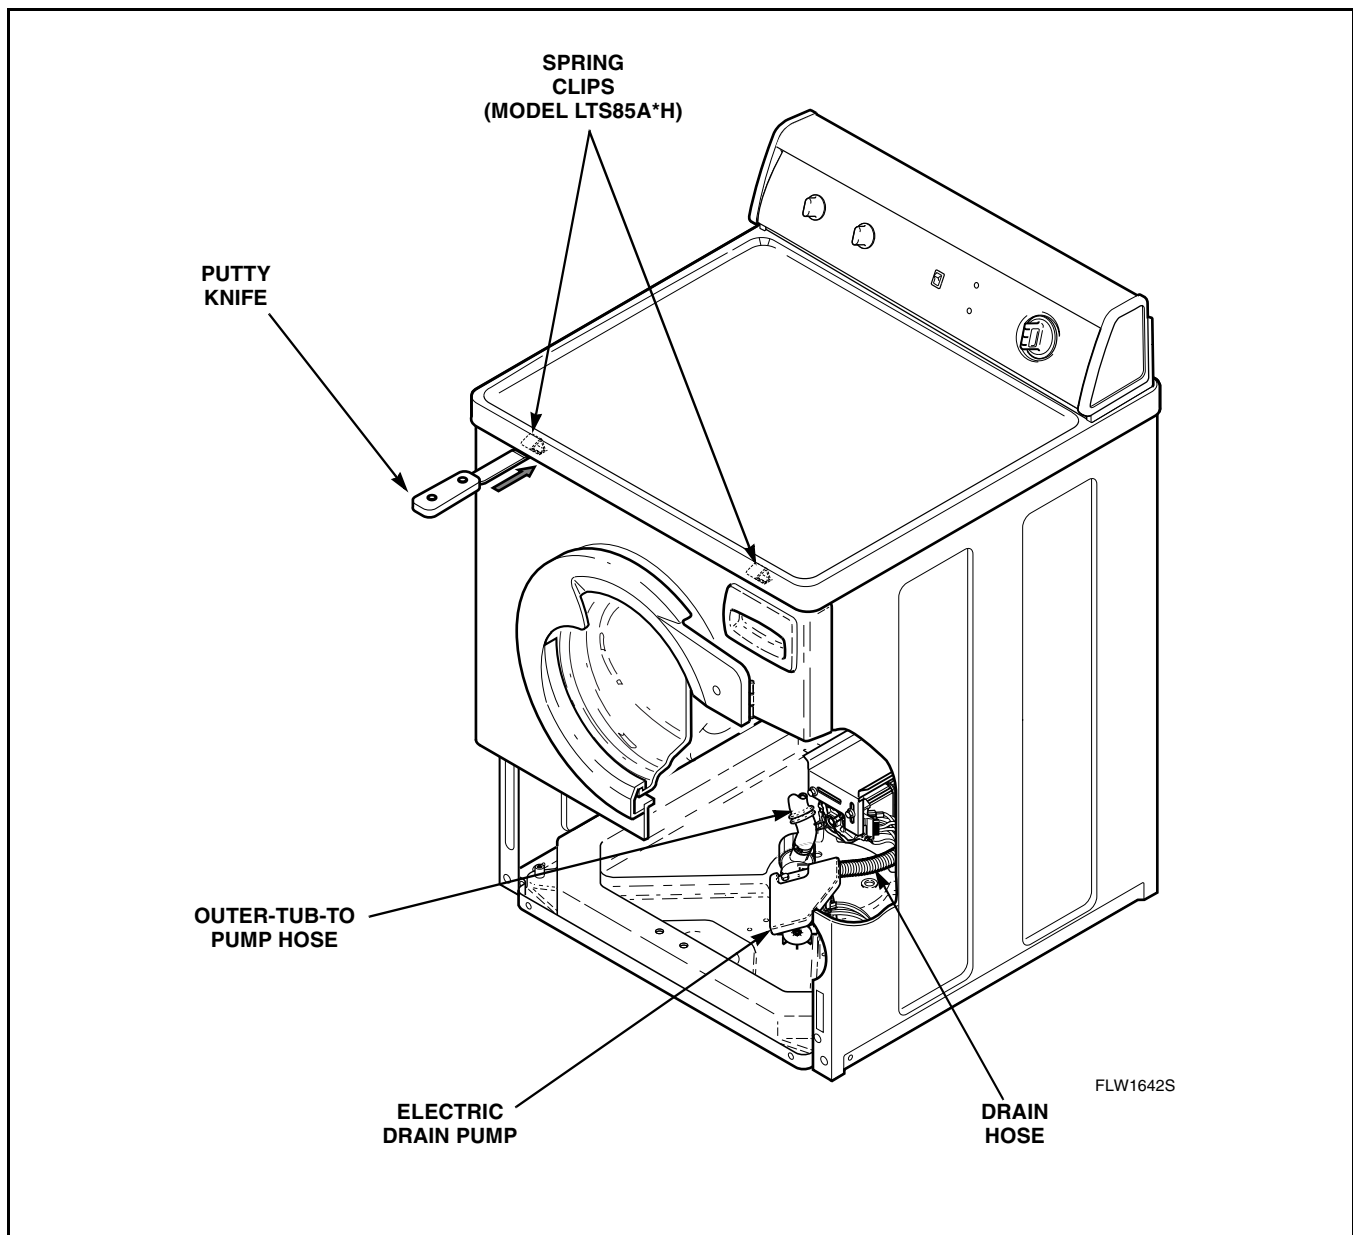
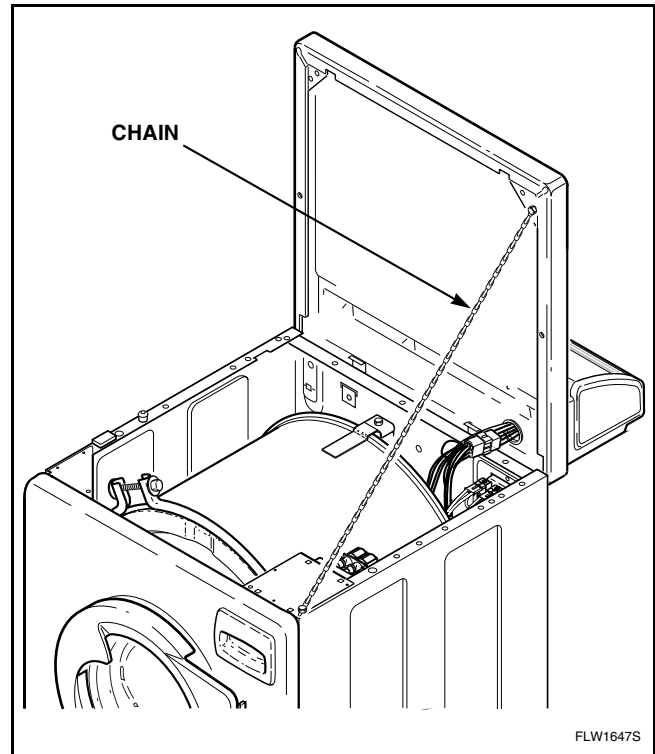

Figure 10
Figure 11
- Loosen hose clamps and remove three hoses connected to electric drain pump (outer-tub-to-pump hose, vent hose and drain hose). Refer to *Figure 10*.
**NOTE:** Front edge of cabinet top is held in place by two spring clips located on top flange of front panel. Refer to *Figure 10*.
- (1) Insert putty knife between cabinet top and top edge of front panel (approximately three inches in from side). Refer to *Figure 10*.
- (2) Push in on putty knife and at the same time lift front edge of cabinet top. Repeat for opposite side.
- (3) If area or space permits, lift cabinet top to a vertical position (top will rest on hinges).
**NOTE:** To avoid damage to hinges, be sure to support top with a chain (not included) or equivalent. Refer to *Figure 11*.
**NOTE: Front edge of cabinet top is held in place by two spring clips located on top flange of front panel. Refer to Figure 10.**
- a. Insert putty knife between cabinet top and top edge of front panel (approximately three inches in from side). Refer to Figure 10.
**NOTE: To avoid damage to hinges, be sure to support top with a chain (not included) or equivalent. Refer to Figure 11.**
- d. Insert putty knife between cabinet top and top edge of front panel (approximately three inches in from side). Refer to Figure 10.